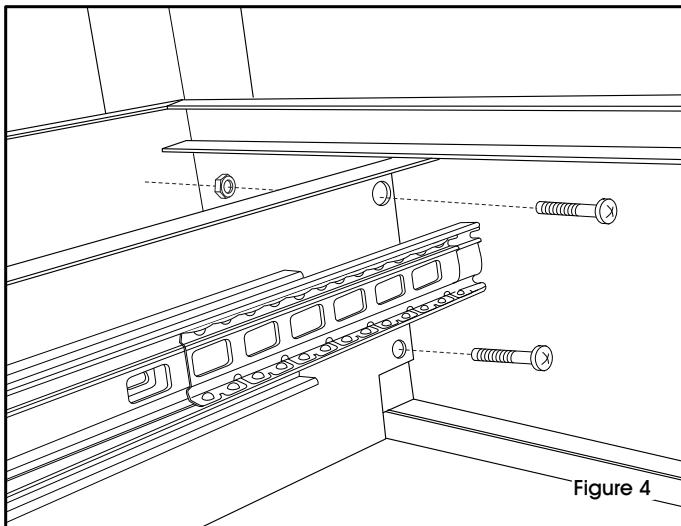

Figure 4
3. Insert drawer tracks into inside of desk top, aligning front and back bolt holes. Drawer slides must face inward. Use 4 large bolts and 4 large nuts to assemble each drawer track to the desk top. (See Figure 4)